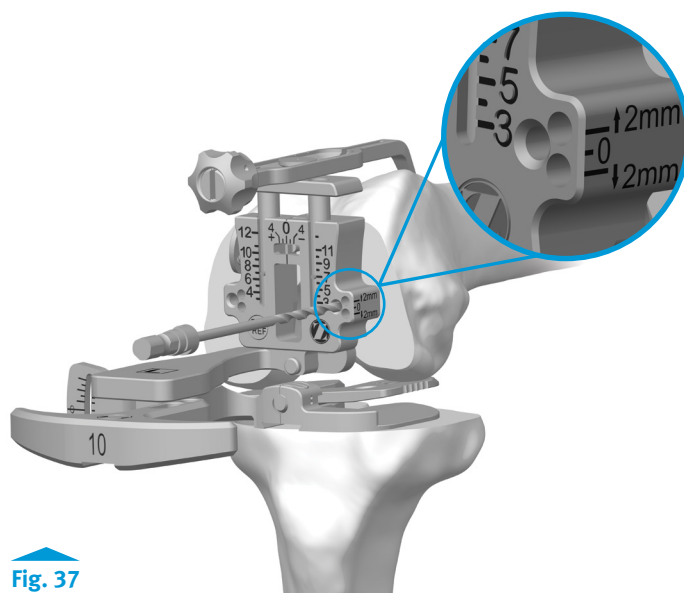

Fig. 37
- If needed, use the +2mm/-2mm holes to adjust the flexion space as appropriate (Fig. 37).